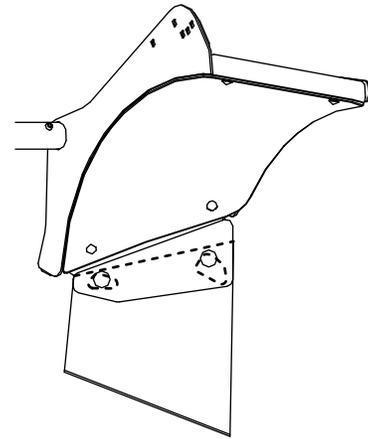

Figure 13
19. Using Figure 13 as a guide, adjust the cutting edge so that it is aligned with the plow cutting edge and flush to the ground.